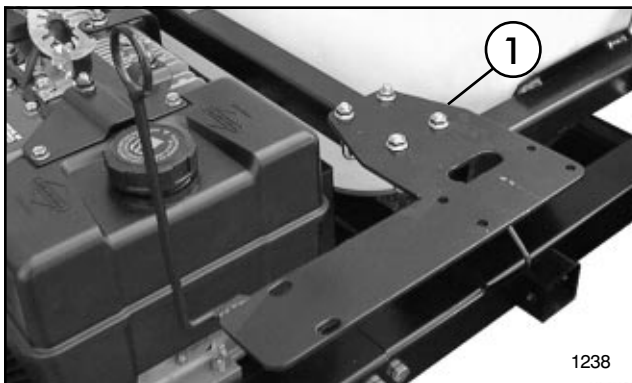

FIG. 9
1. Secure Valve Plate to the front bar of the Saddle Assembly using (2) U-Bolts and (4) 5/16" flange nuts. See FIG. 9.